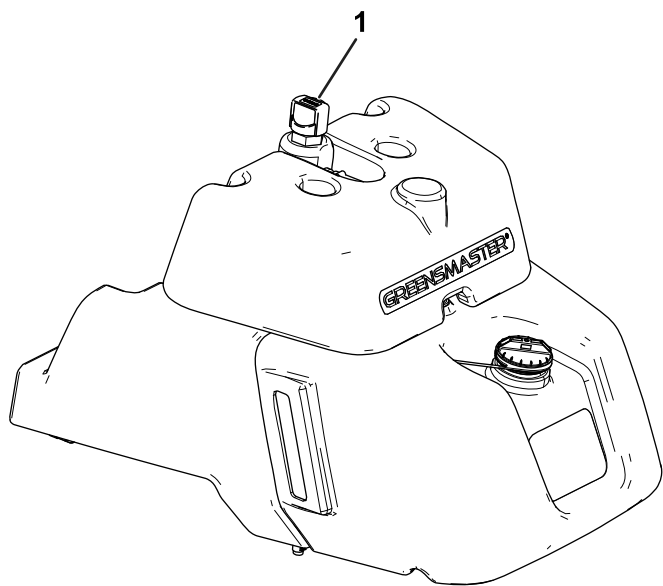

Figure 36
- If your tank does not have a sight window, locate the dipstick on the top of the main hydraulic tank (Figure 36) and proceed to step 3.